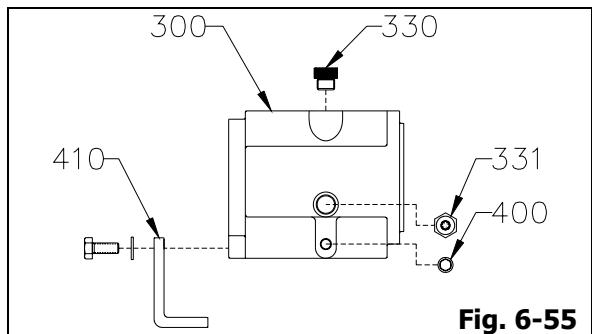

Fig. 6-55
13. Remove oil cover (330), oil gauge (331), bearing frame drain plug (400) and all connection plugs (409) or/and piping adaptors from bearing frame (300).
14. Remove support foot (410) from bearing frame (300) (Fig. 6-55).